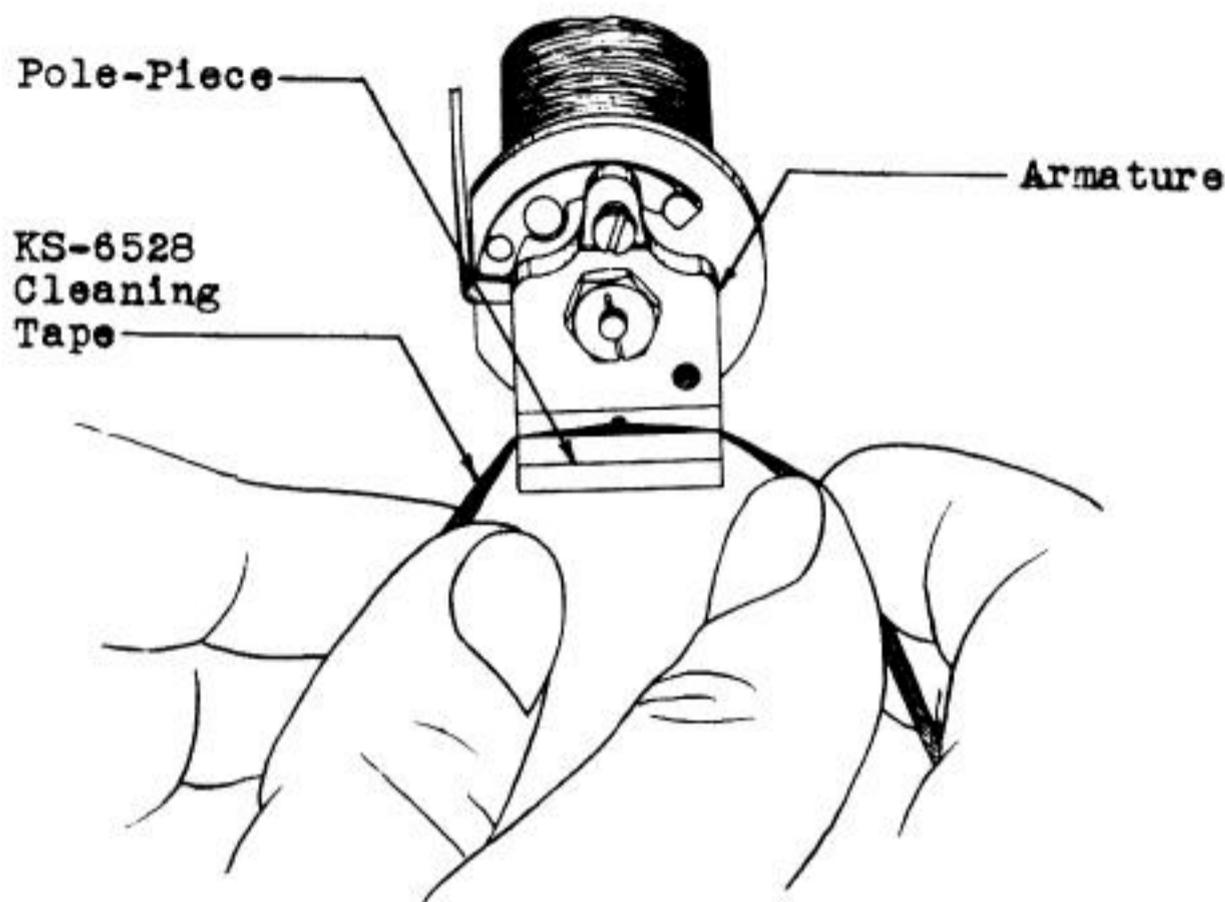

Fig. 35 - Method of Cleaning Armature Slot and Armature Knife Edge on 89, 101, 105, 108, 118 and 172 Type Relays
6.16 To clean the armature slot and the armature knife edge, fold the tape lengthwise and pass it back and forth in the slot with the folded edge (not the outer edge) of the tape in the slot. In some cases it may be desirable to loosen the dirt by applying C.P. carbon tetrachloride in the slot with the flat end of a toothpick. See Figs. 35 and 36. Use the tape in the slot both in back and in front of the armature. After cleaning see that the armature is properly seated in the slot.